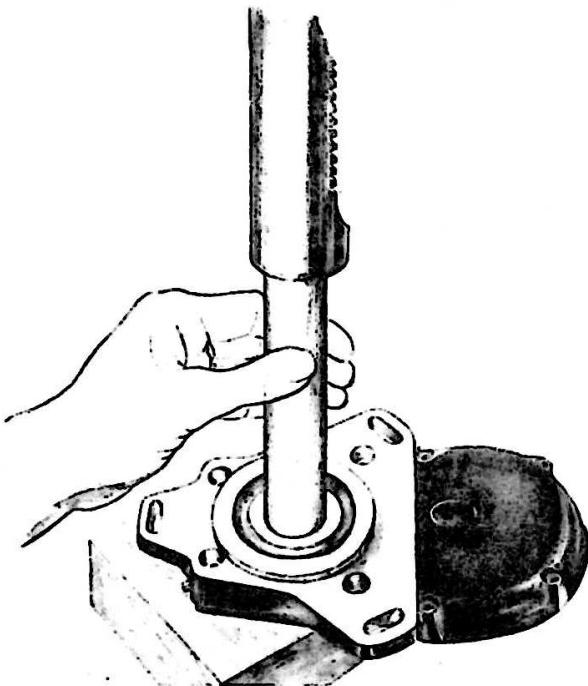

Figure 6 - Removing Oil Seal from Mounting Flange.
(1) Remove the drive shaft nut. This is done by holding the magneto drive coupling with the box wrench No. 11-1239 and using the No. 11-986 socket wrench for the nut.
(2) Remove the drive coupling. If it sticks, use puller No. 11-1257.
(3) Take out the four screws which hold the mounting flange and front end plate to the magneto housing. Take out the six screws which secure the flange to the front end plate, and tap the flange lightly to remove it from the plate. If the oil seal in the flange shows evidence of failure or deterioration remove it and replace with a new seal. The old oil seal can be pressed out with a small wooden dowel 1-1/8 inch in diameter. The new oil seal can be pressed in using No. 11-1350 support. (See figure 6.)